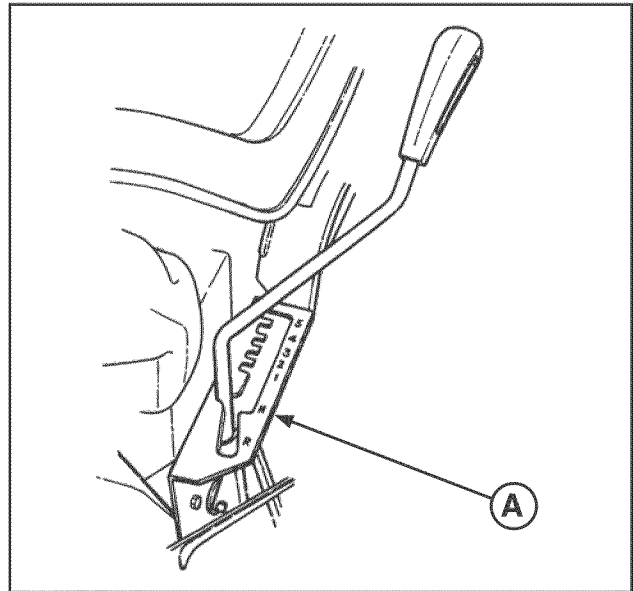

FIGURE 4
1. Move the transmission shift lever (**A**, Figure 4) to the (N) NEUTRAL position.